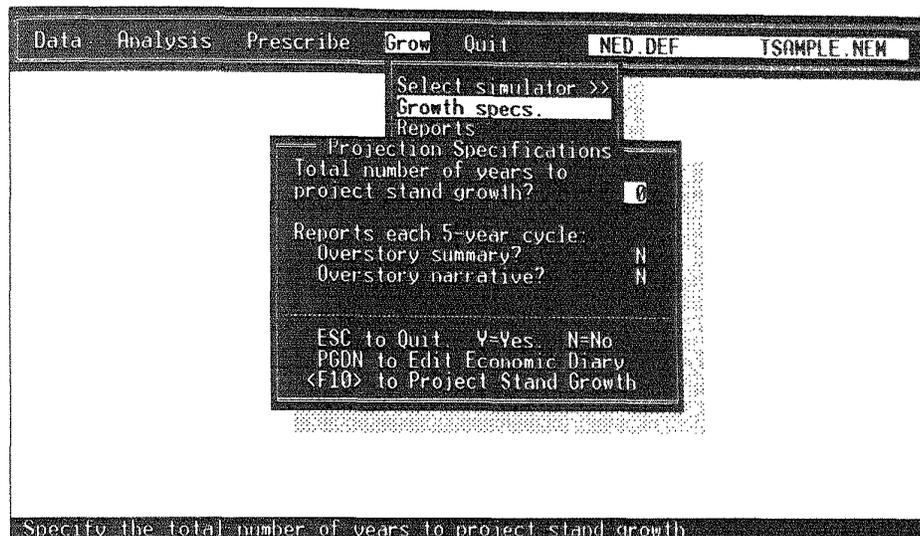

Figure 25. -- Grow Projection Specifications window.
**Operation:** The "Projection Specifications" window will appear (Fig. 25) on the screen. On the first line, you can enter the total number of years that you want to project the stand. In this window, you can also choose to receive certain reports at 5-year intervals throughout the projection period by entering  beside the desired report. If you are satisfied with your projection specifications at this point, press  to begin the simulation process.